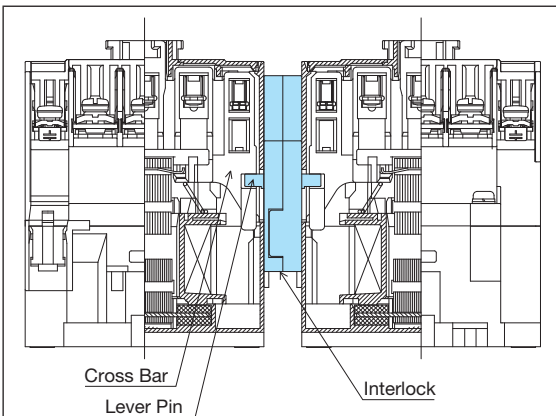

Fig. 1. Structural and Operational Diagram (T10 to T80)
(1) Open State (Fig. 1, 2(a), 3(a))